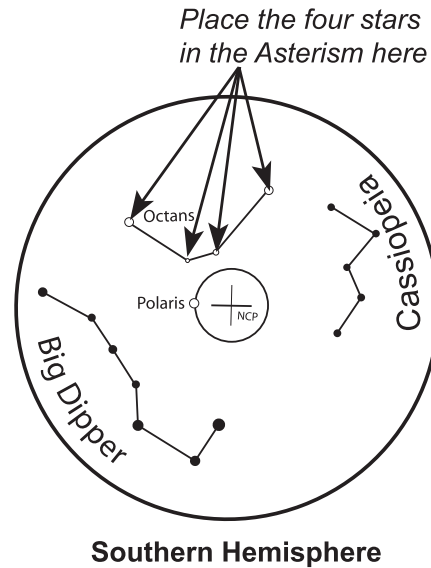

Fig. 2.3b
- Fig 2.3b shows the pattern in the field of view (FOV) of the polar scope. If the image appears blurred, rotate the knurled ring of the polar scope's eyepiece to focus.
- **For observing in Southern Hemisphere:** In the FOV of the polar scope, locate the 4 dim stars (Around Magnitude 5 to 6) which form the pattern like the “Octans” drawing in the polar scope (refer to Fig. 2.3b). Rotate the large knurled ring of the polar scope assembly to align the orientation of the “Octans” drawing to the 4 stars. Then use the jack screw and the azimuth adjustment knobs to move the 4 stars to the 4 small circles of the “Octans” drawing.
As the Polaris is not located exactly at the North Celestial Pole, we can see it orbits the North Celestial Pole in a polar scope. The large circle seen in the center of the pattern in Fig. 2.3b is a representation of the Polaris' orbit around the North Celestial Pole. When performing the polar alignment process, it is necessary to determine the orientation of the Polaris on the circle. We can use the following 3 methods to get the orientation:
3. At the end of the initialization of the SynScan hand control, after entering the proper local longitude, latitude, date, time, and daylight-saving time, the SynScan hand controller will display the message: "Polaris Position in P.Scope=HH:MM". Imagine the larger circle in Fig. 2.3b as a clock's face with 12:00 at the top, with the current time pointing to the "HH:MM". The orientation of the hour hand of the clock represents the orientation of the Polaris in the polar scope. Put the Polaris to the same orientation on the large circle to finish the polar alignment.